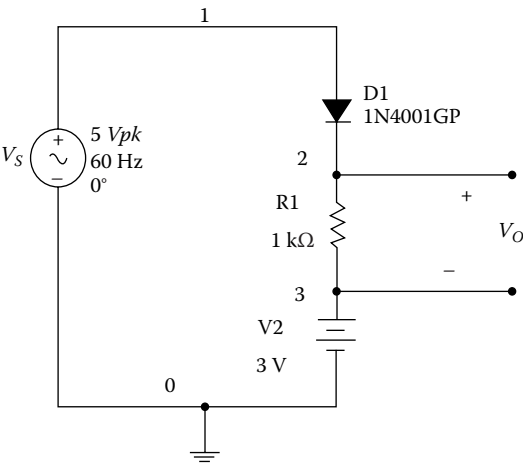

FIGURE P6.3
Problem P6.3 A battery-charging circuit is shown in Figure P6.3. The battery voltage is 3 V. The source voltage is $v_s(t) = 5\sin(120\pi t)$ V, and the load resistance is 1000Ω . Use the Analog Discovery board to (1) display the input voltage, (2) plot the current flowing through the diode, (3) measure the conduction angle of the diode, and (4) determine the peak current flowing through the diode.